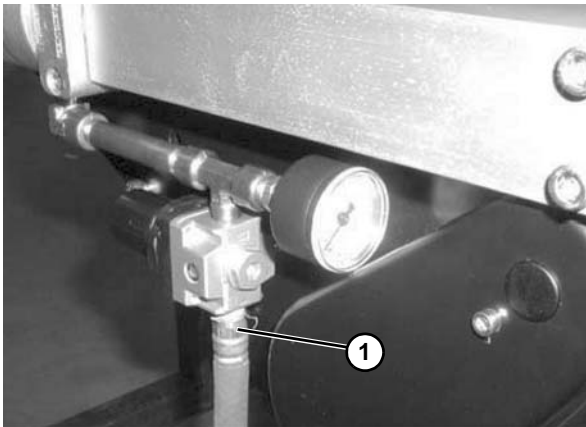

Figure 110
1. Remove air supply and remove hose (Figure 110, item 1) from the center drive.